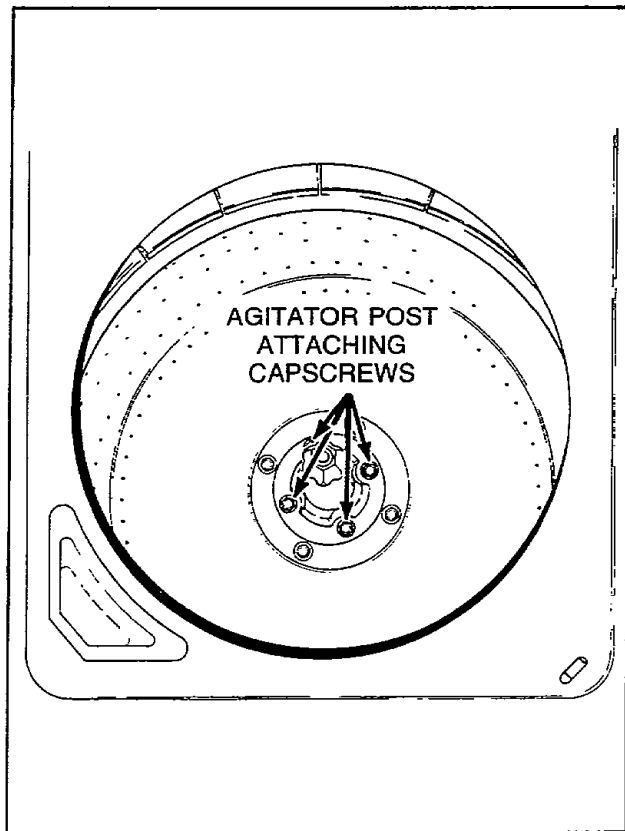

Figure 7
- Remove four cap screws holding agitator post assembly to washtub hub, *Figure 7*, then lift assembly out of washtub.